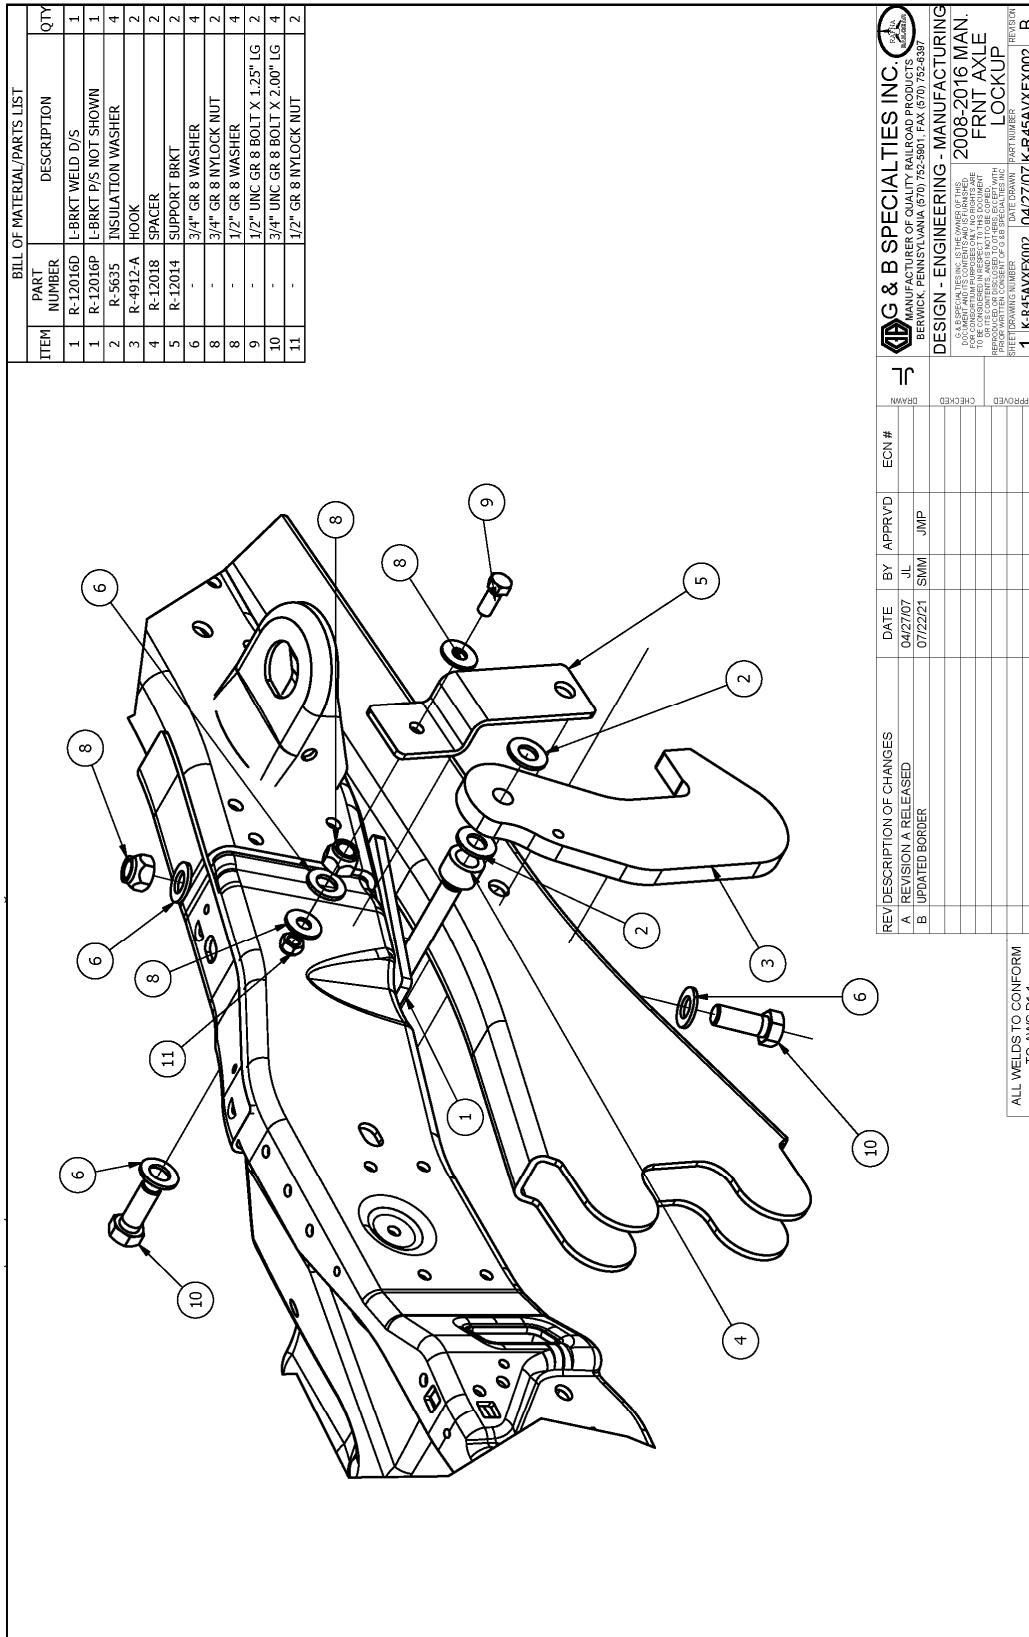

Figure 1
3. Position the L-Bracket Weldment on to the side of the frame, (Fig 1 & Fig 4), lining up the slot on the L-Bracket with the slot on the bottom of the frame and bolt with 3/4" x 2" long bolt and washers and nut. Mark and drill or mark and remove L-Bracket and drill a 13/16" diameter hole into existing small hole on the side of the frame. Use the supplied 3/4" x 2" bolt along with washers and nut to finish mounting L-Bracket to the frame. Make certain that the correct L-Bracket weldment is fastened to the correct side of the frame. Drivers side, (R-12016D), is fastened to the driver's frame. Fig 6 shows drivers' side assembly for reference.
4. Continue assembling hook assembly using (Fig 1), as reference and for parts identification. If lateral adjustment is required item #4, spacer can be trimmed down, or washers can be added into assembly to maintain proper clearance with frame, suspension arm, and hook. For mounting of item #5, support bracket, a 17/32" hole must be drilled into side of the frame, (Fig 5), shows support bracket bolted to frame.